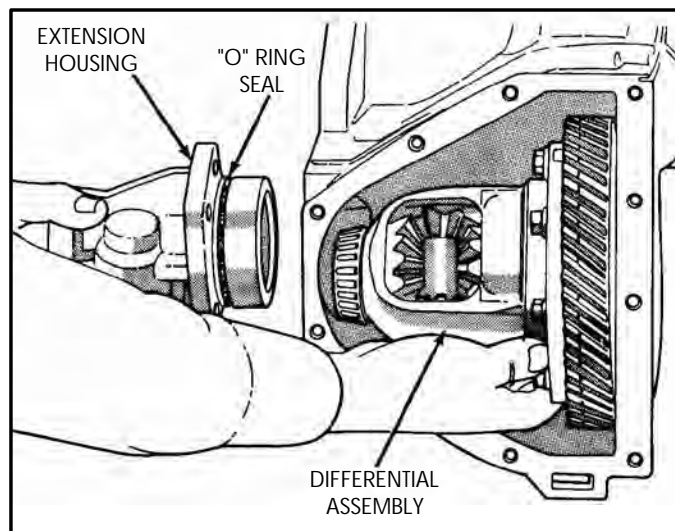

Figure 141
26. Remove the extension housing while holding the differential and ring gear assembly, and then remove the differential and ring gear from the case, as shown in Figure 141.